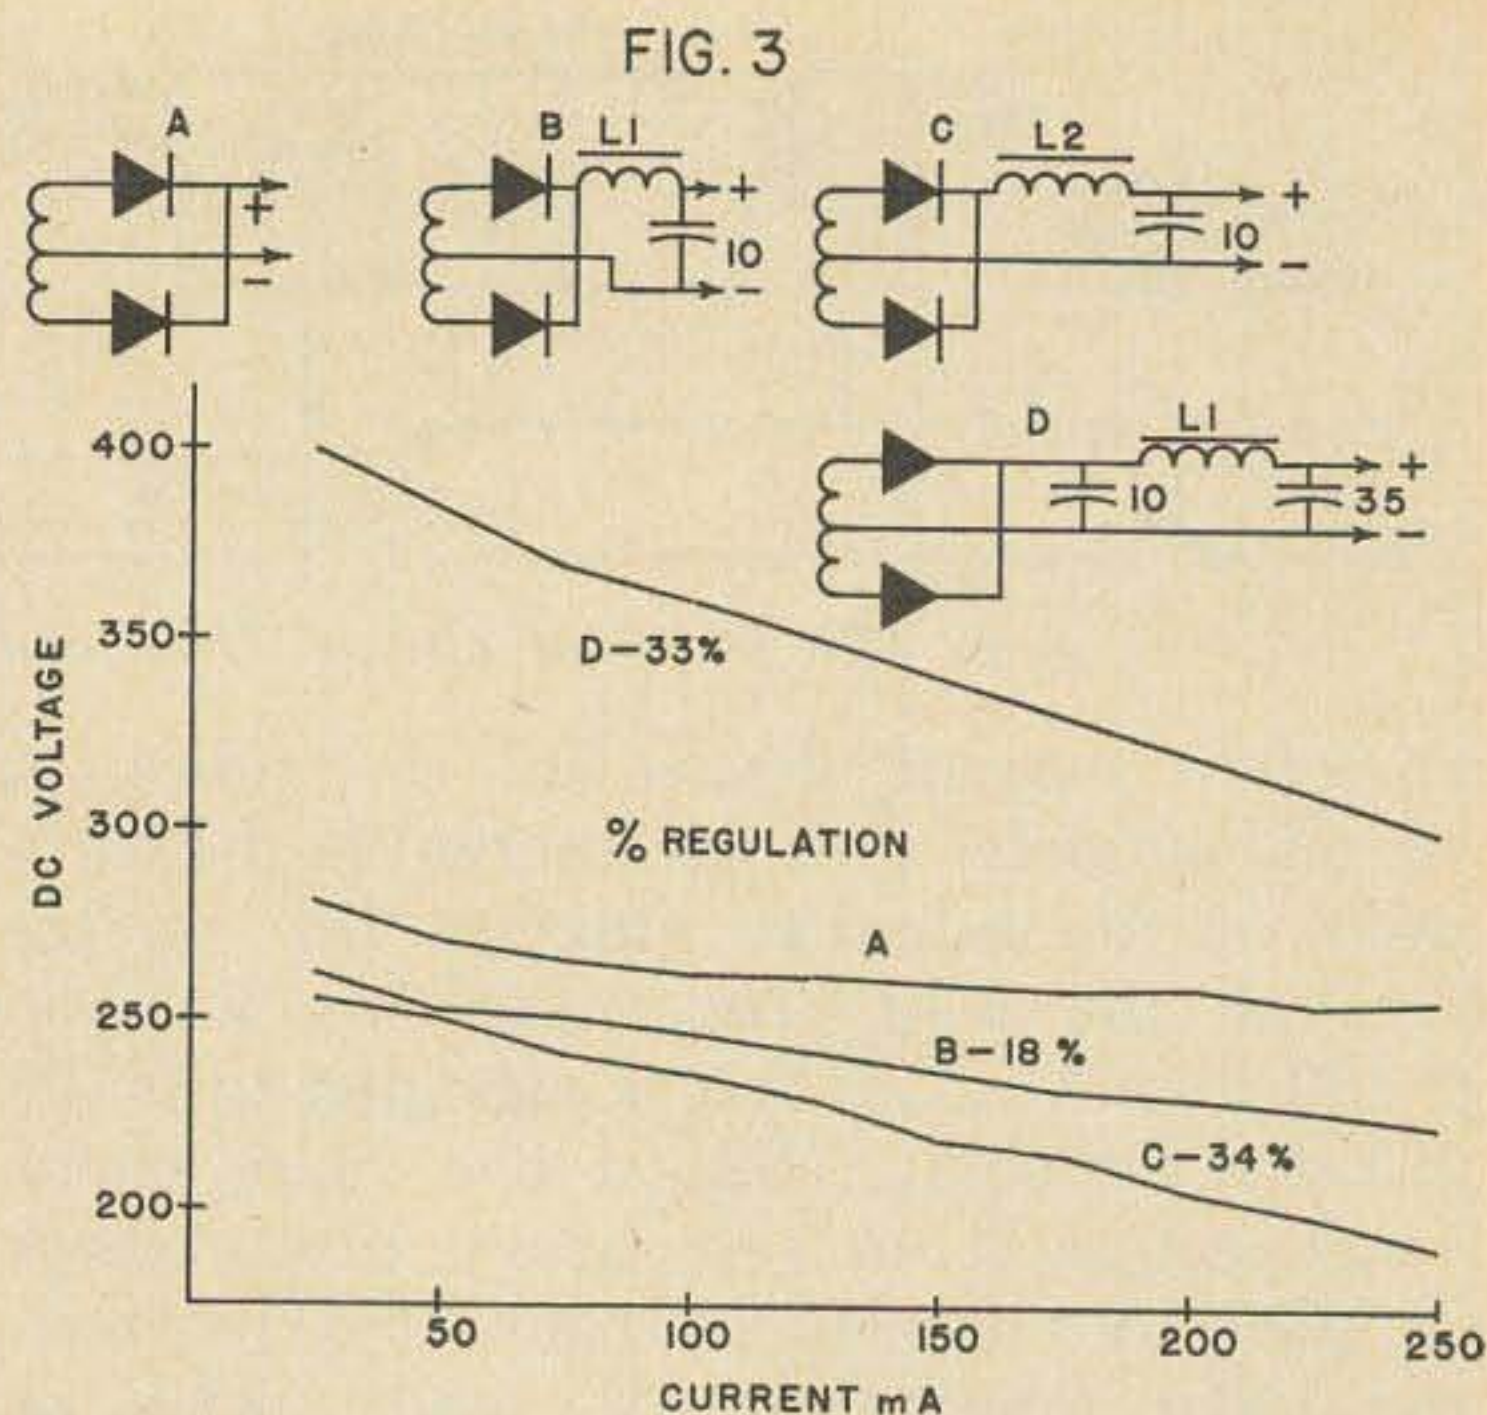

Fig. 3. Test results, obtained quickly and easily, illustrate power supply performance under load.
1. Regulation—The graphs in Fig. 3 were made by testing a power supply using a transformer with an unknown current rating. Two unmarked chokes, L1 and L2, were tied in the power supply to see which offered the best regulation. A dc voltmeter was connected across the power supply output to measure the voltage under the different current settings.